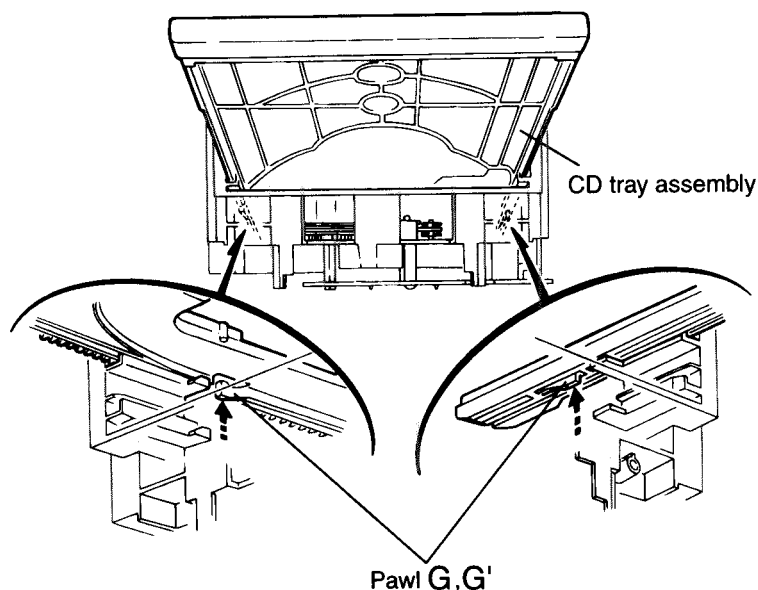

Fig.9
15. At the position where the CD tray assembly has stopped, pull out the CD tray assembly while pressing the two pawls G and G' on the back side of CD tray assembly(See Fig.9). In this case, it is easy to pull out the assembly when it is pulled out first from the stage CD tray assembly.